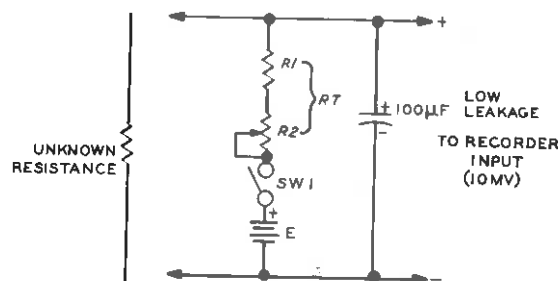

Figure 14
To use a voltage source other than a 10-volt supply and the circuit shown in Figure 14, proceed as follows:
4. Construct the circuit shown in Figure 14 using the values just determined.